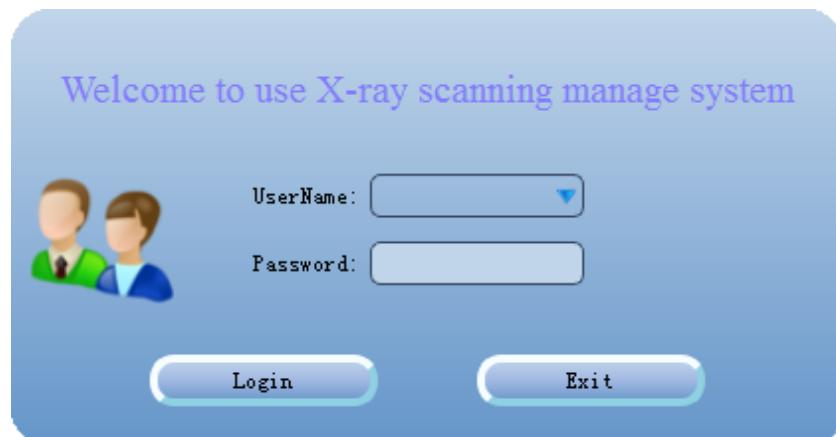

Figure 6.1 Login Interface
2) Operation procedure: In baggage scanning status or train status, press stop firstly and then press  . Then, the system will pop up the interface of main menu automatically. You can not enter any submenu in case of no login, so please log in firstly: Input your user name and password in “Login” and click “login” (as shown in figure 6.1).
Click the menu of Login to enter the interface of login (figure 6.1). Input superuser name: admin (default) and password: 12345 (default). All menu functions are available only after the login is clicked.